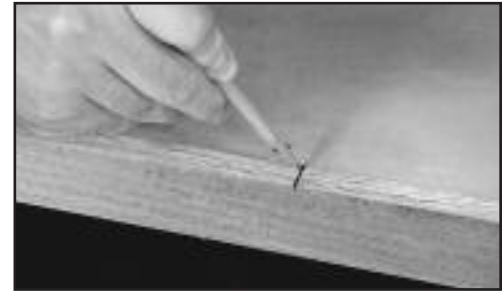

Fig. 05
3. Mark a centerline on the front edge of the cabinet bottom (Fig. 05).